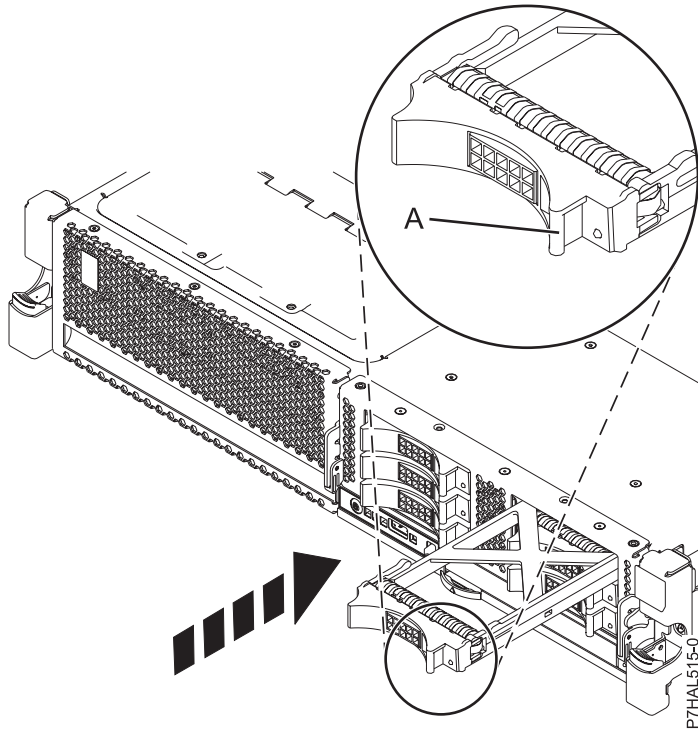

Figure 27. Installing a disk drive filler
2. Slide the disk drive filler all the way into the system or expansion unit, and push the disk drive filler handle (A) until it locks, as shown in Figure 27 on page 47.